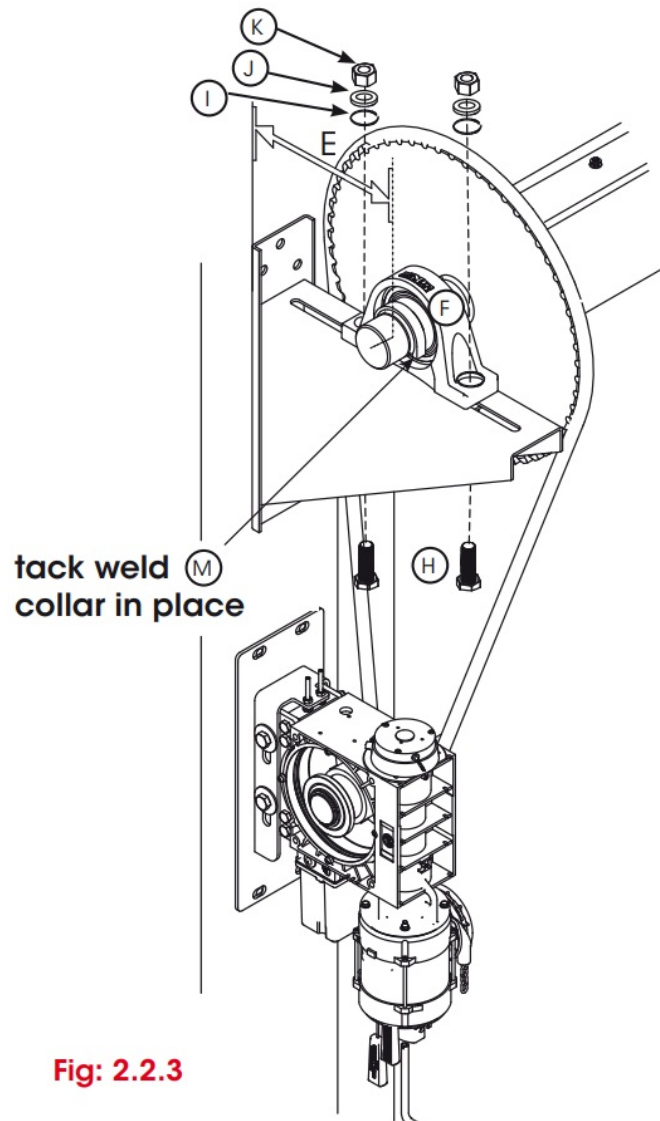

Fig: 2.2.3
- Fit the opener plate and opener as shown in Fig 2.2.3 using suitable fasteners as per 1.2 substrate fastener
e) Position the drum onto the brackets as per fig 2.2.3 and 2.2.4 using measurement E from the dimension table, when satisfied the shaft collars **M** can be tack welded in place.